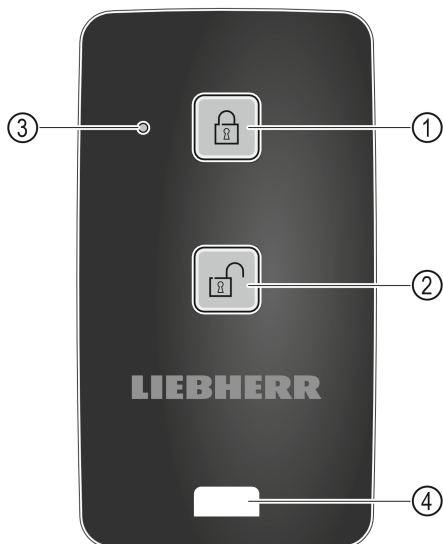

Fig. 165
- (1) Engage lock
- (2) Unlock lock
- (3) Status LED
- (4) Fastening eyelet
- ▶ Press button Fig. 165 (1) on the remote control.
- ▶ Press button Fig. 165 (2) on the remote control.
- ▶ Status LED Fig. 165 (3) provides a visual acknowledgement when you press the button.
- ▶ Eyelet Fig. 165 (4) for attaching remote control, for example, to a key ring.